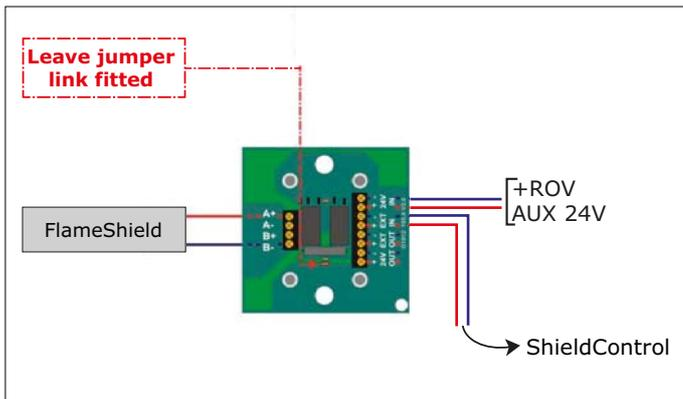
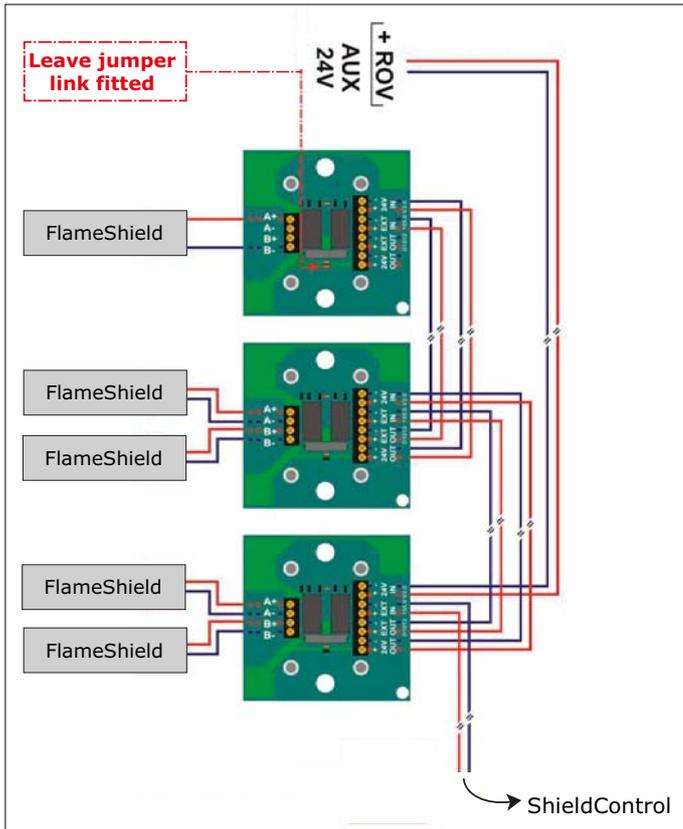

Fig. 5.1
Fig. 5.2
Fig. 5.1 and Fig. 5.2
- 1 FlameShield module: connect A+ and B- as per Fig. 5.1
- 2 or more FlameShield modules: connect A+ and A-; B+ and B- as per Fig. 5.2
- Mount an EOL diode (A) on the last sequential activator. Ensure the correct position/direction of this diode (ref. marking).